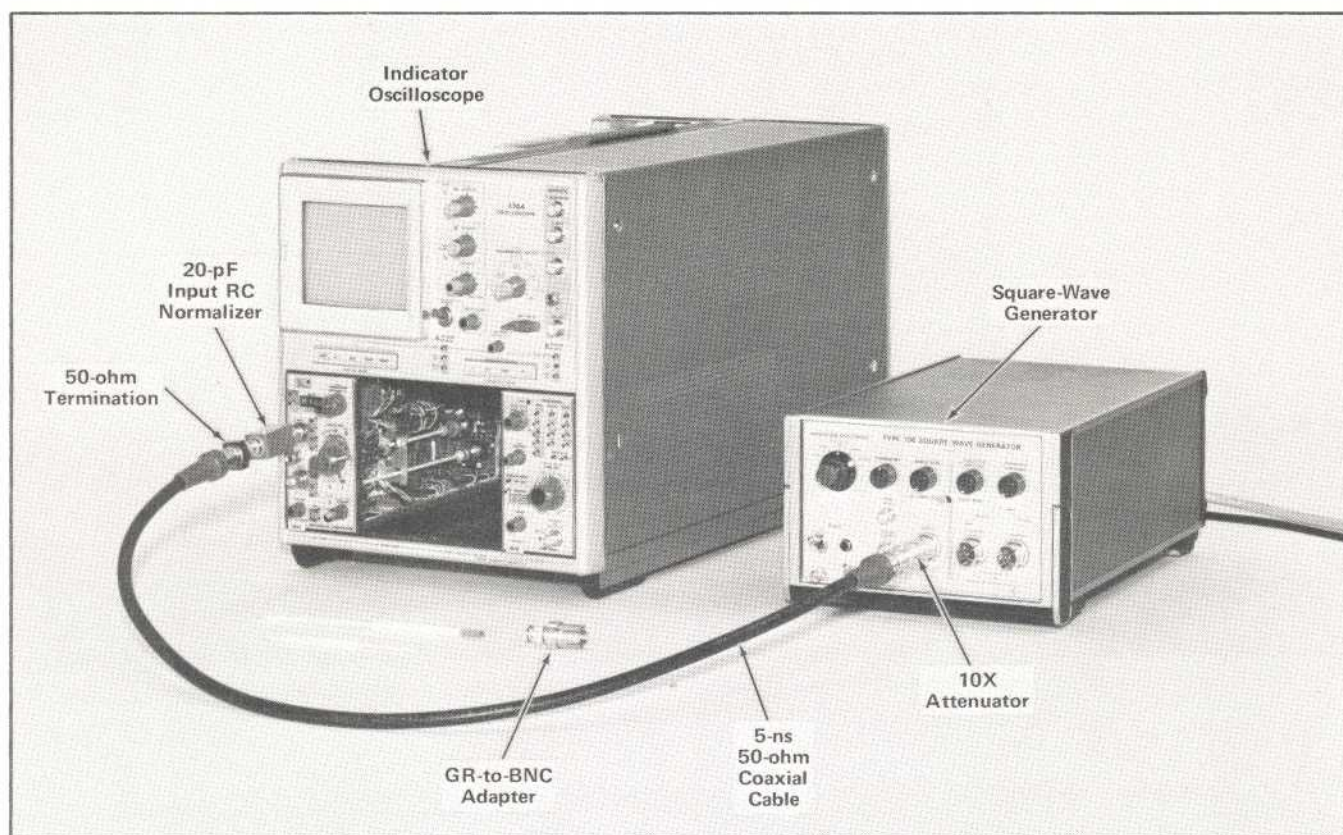

Fig. 5-16. Equipment required when performing steps 18 and 19.
a. Test equipment setup, with connections made at completion of step 18c, is shown in Fig. 5-16.
- c. Insert the 50-ohm termination in place of the GR-to-BNC adapter. Reconnect the 10× attenuator between the coaxial cable and Type 106 Output connector. This is the same setup as shown in Fig. 5-16 except the signal is applied to the —INPUT connector.